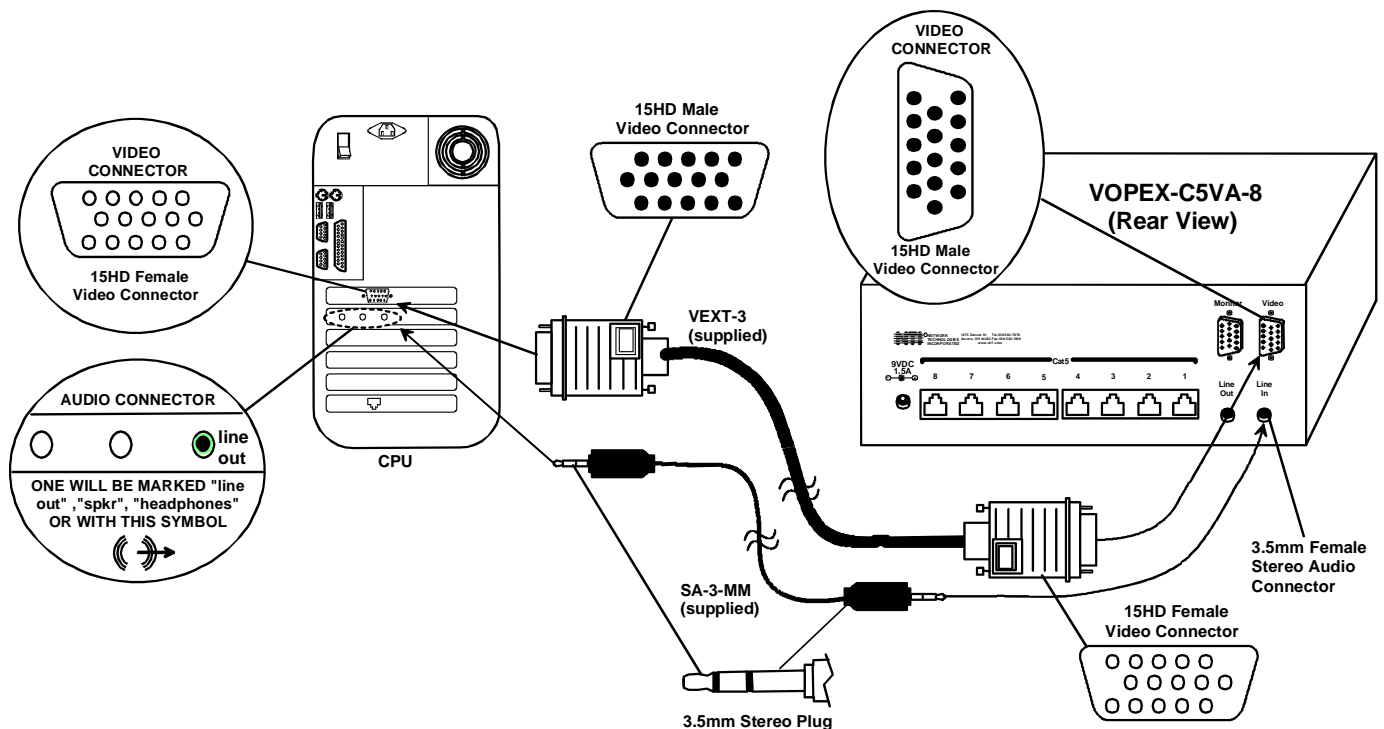

Figure 1- Connecting a VOPEX-C5VA-8 to a CPU
1. Make connections between the VOPEX-C5VA-x and the audio and video source(s). (See Fig. 1.)